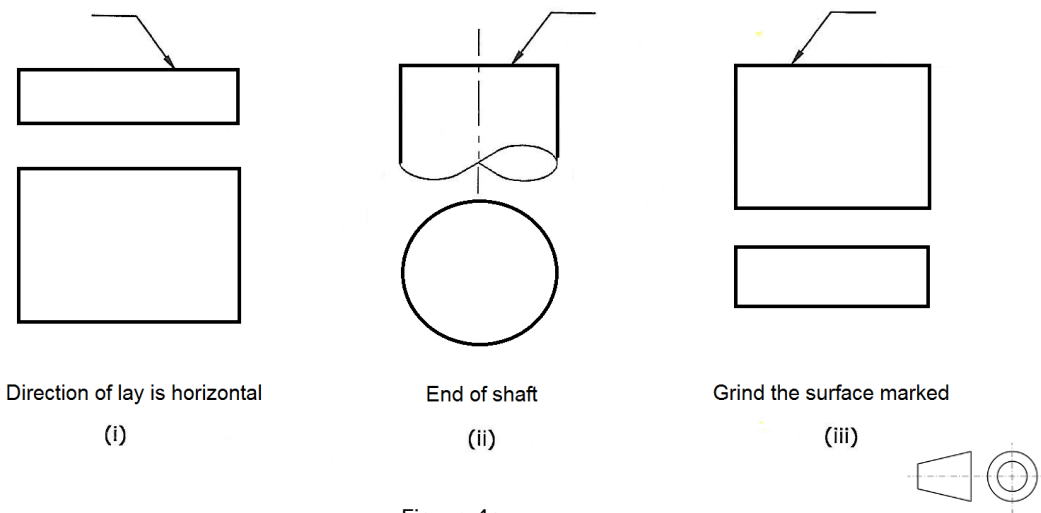

Figure 4a
- i. any manufacturing process is permitted; (1)
- ii. material removal is required; (1)
- iii. material removal is not permitted. (1)
- b) Draw, Figure 4a(i), 4a(ii) and 4a(iii), to a suitable size.
- i. In the drawings 4a(i) and 4a(ii), indicated by the arrow on the surface; show the direction of lay, in association with the machining symbol of the process of your choice. Also show the direction of lay or pattern on the given plan. (3)
- ii. In the drawing 4a(iii), indicated by the arrow on the surface; show that the surface is to be grinded to a value of surface roughness of (0.2). Include the representation of the specific process or production method. Also show the direction of lay on the given plan. (2)